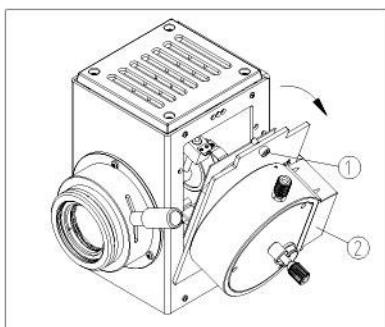

Fig. 5
### Mercury Lamp (Fig. 5 & 6)
Loosen the lock screw ① of the mercury lamp socket assembly ② on the mercury lamp housing using the M4 Allen key, and remove the socket assembly (Fig.5).